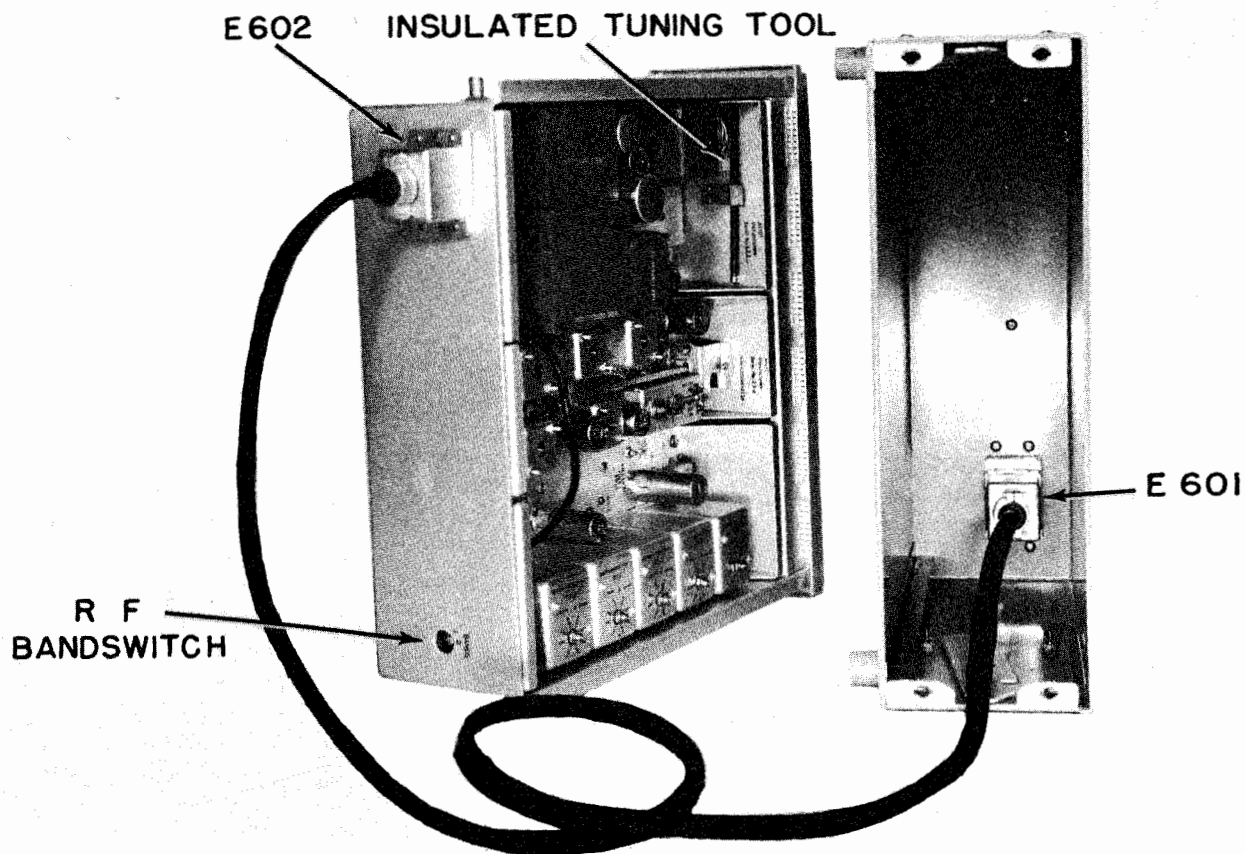

Figure 7-1. Photo—Receiver and Case, Connected by W601 Cable
(3) Connect test cable W601 between the receiver chassis receptacle (J302), and the rear panel case receptacle J504. (See Fig. 7-1.)
(1) The receiver chassis must be withdrawn from the case and connected to it by the W601 test cable. (See Fig. 7-1.)
(2) Connect the signal generator (72 ohm output impedance) to the 72 OHM ANTenna input on the rear panel, or the RF connector (J102) on the RF chassis. Adjust the signal generator output to the desired signal strength. Turn the receiver ON, and the NOISE LIMITER switch ON and allow the set to warm up.
(3) Rotate the SQUELCH threshold control (R-217) from a fully clockwise setting towards a fully counterclockwise position, until the point is reached where the desired signal level causes the squelch to open. Leave the control at this point. Remove the signal generator and restore the receiver to its normal operating condition.